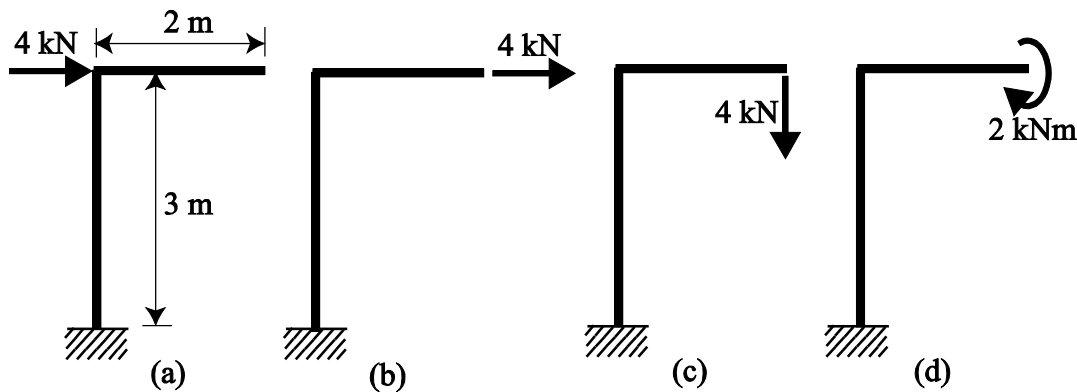

Figure 8
- † 8. Figure 8 shows a plane structure which is subjected in turn to four different loading conditions. The structure consists of a vertical post that is rigidly built into the ground, and a horizontal bar which is rigidly connected to the top of the post.